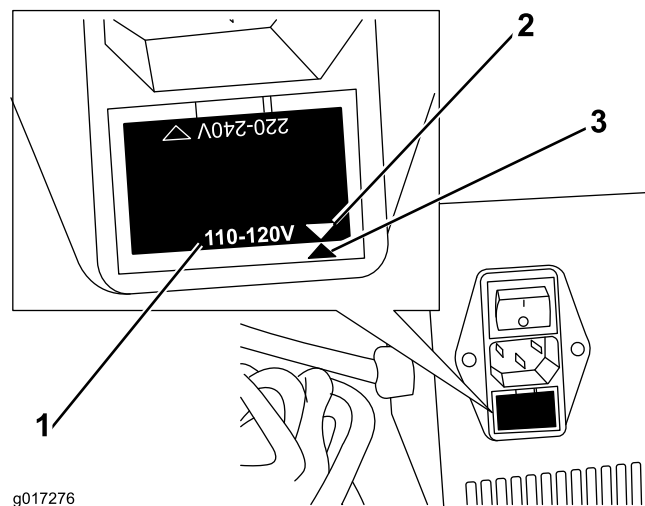

Figure 1
1. Check the orientation of the fuse tray under the power cord receptacle to determine if the current voltage setting of the charger is set to the same voltage rating of the electrical outlet you will use to power it (Figure 1).
Note: Figure 1 illustrates the setting for 110–120 V power.
3. Turn the fuse tray over so that the voltage on the fuse tray lines up with the reference mark on the fuse tray holder (Figure 1).